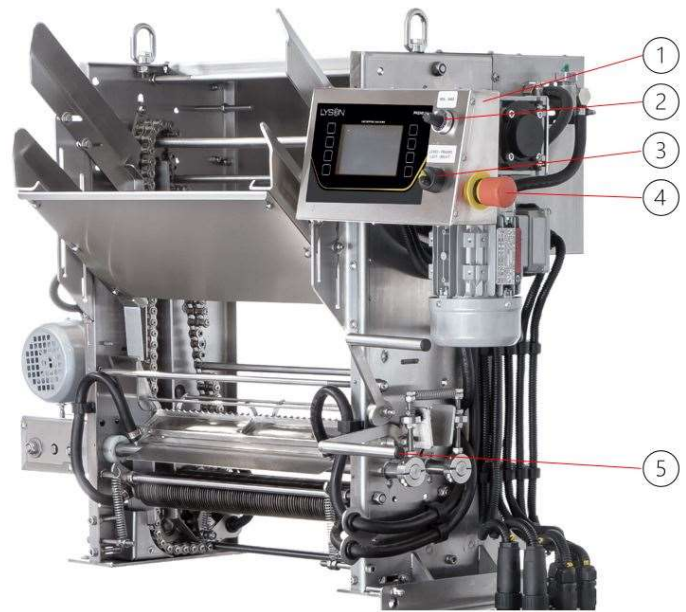

Fig.3
- check if the safety switch on the controller housing is not depressed (by gently turning it as arrows on the top of the switch) Fig3 no.4